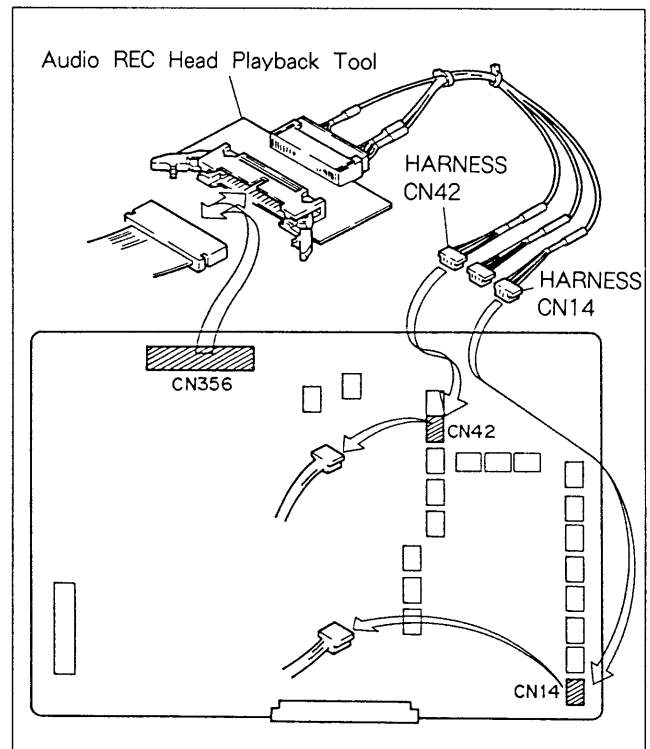

Fig. 9-7-2. Connection of Audio REC Head Playback Tool
- (1) Open the power panel and disconnect the harnesses CN14, CN42 and CN356 from the AP-22 board. (Refer to "Opening of the Rear Panel and Connector Panel" in section 2-2.)
- (2) Connect the audio REC head playback tool to the AP-22 board as shown in Fig. 9-7-2.